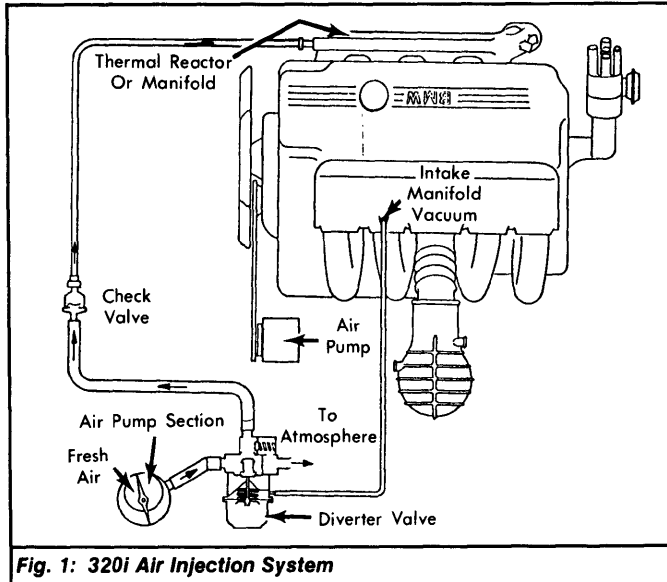

Fig. 1: 320i Air Injection System
The air injection system is used to reduce hydrocarbon (HC) and carbon monoxide (CO) emissions. The system adds a controlled amount of fresh air to exhaust gases at the exhaust ports causing oxidation of gases. On all models except Federal 320i, air injection is used in conjunction with a thermal reactor. See Fig. 1. The air injection system